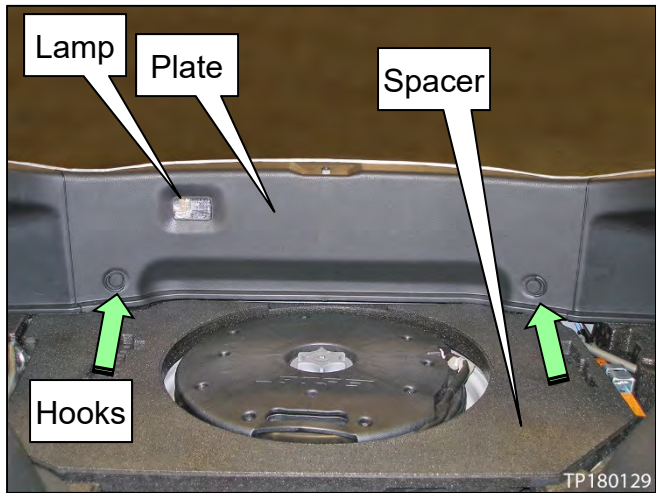

Figure 24
23. Remove the luggage spacer (see Figure 24).